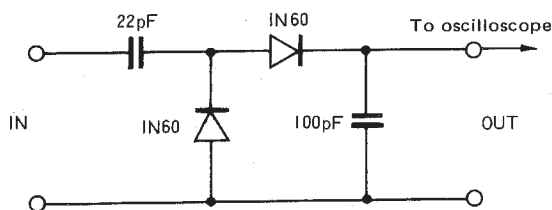

Fig. 19 Detector
When special accuracy is not required during adjustment such as input level or oscillation output, a voltmeter or circuit tester may be substituted for RF VTVM by connecting it to the output of detector as shown in Fig. 19.
- 2) Detector (See Fig. 19.)